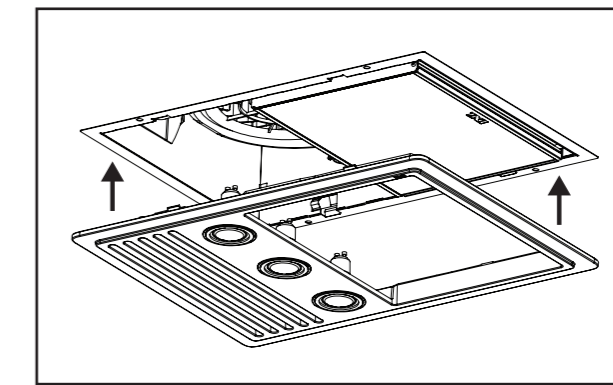

Fig 14.
7. Once all the LEDs are secure in the fascia, push the fascia firmly up into position in the body. Ensure the fascia is in contact with the ceiling all around the unit. (Fig 14).